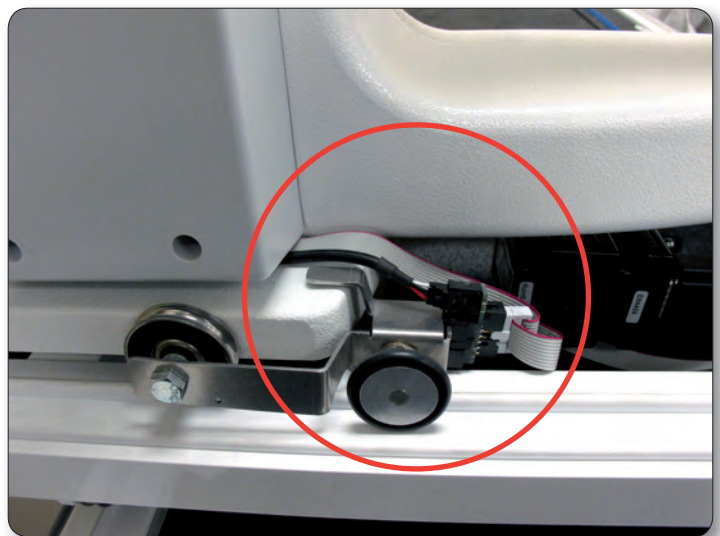

Figure 20
11. The black cables attached to the HQ Pro-Stitcher carriage should be routed up between the rear handles and the quilting machine, toward the right-hand side of the machine (looking at the machine from the back). Place the black cable clips as shown (Figure 19) and route the cable accordingly. The small black cable with the black 3-connector clip should be routed underneath the P-Pod and snapped into the Stitch Regulator Adapter Board (Page 16, J) (Figure 20).